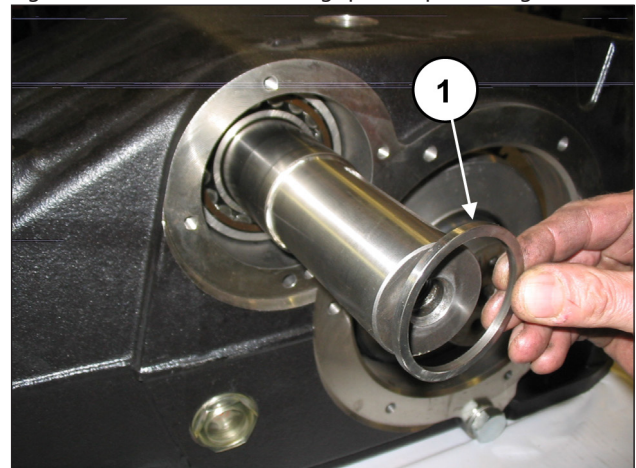
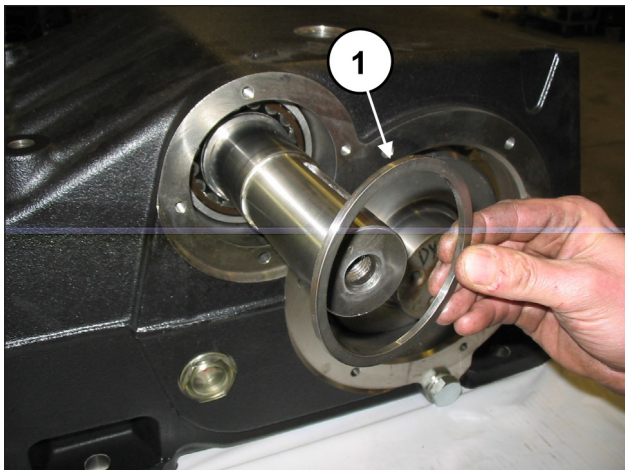

Fig. 59
Fig. 60
At both sides, insert the internal bearing spacers (pos. ①, Fig. 59) and the external bearing spacers (pos. ①, Fig. 60).